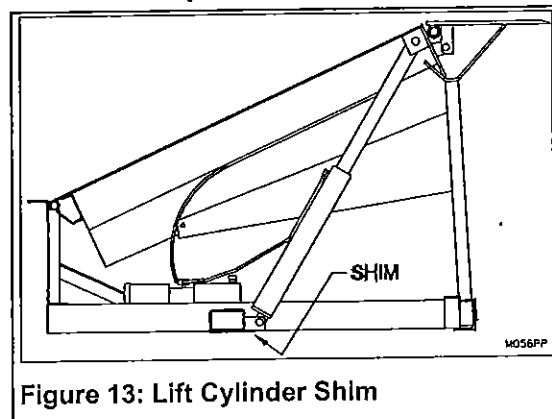

Figure 13: Lift Cylinder Shim
7. Shim under hydraulic lift cylinder lower clevis plate and weld securely in place. (See Figure 13, page 7)